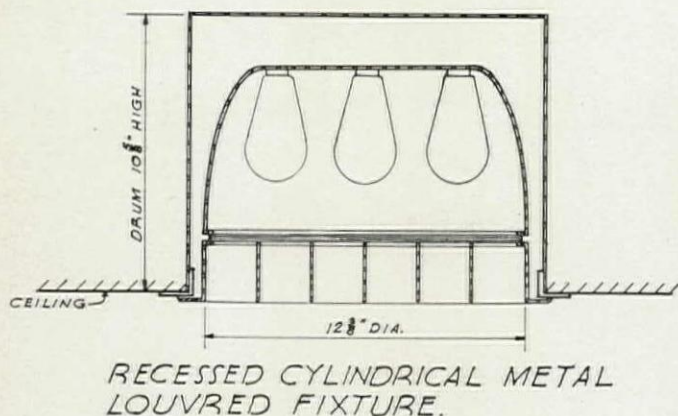

FIGURE 1
B. The next experiment tried was with a fixture consisting of a cylindrical metal box surface-mounted on the ceiling (Figure 1). To avoid glare a series of aluminum louvers were placed at the bottom. This fixture was not scientifically designed for distribution and consequently delivery was very poor. Because the ceiling received no light, contrasted with the bright aluminum louvers, the room appeared dark and gloomy. To relamp such a fixture it was necessary to climb a ladder.